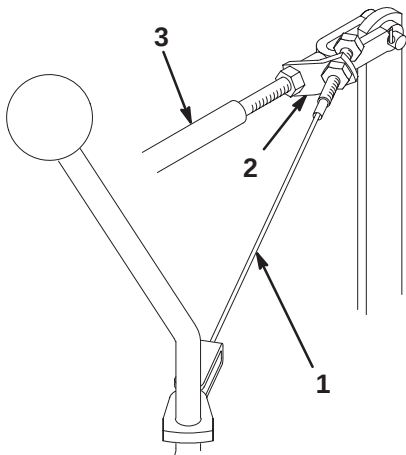

Figure 52
1. Loosen the front jam nut securing the cable assembly to the mow/lift control rod bracket (Fig. 52).
3. While holding the mow/lift control rod in the rear position, tighten the rear locknut to remove almost all of the slack from the cable assembly (Fig. 52). Do not over-tension the cable.